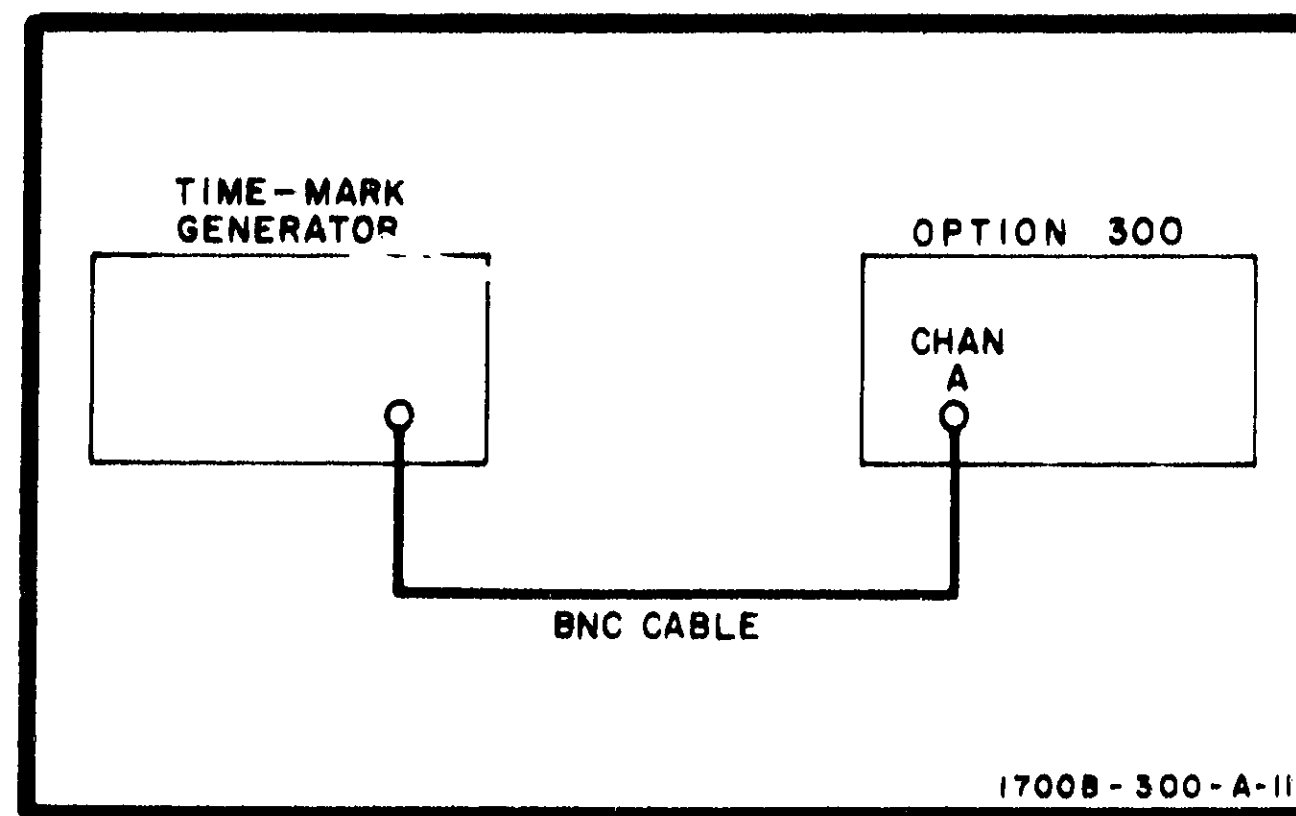

Figure 5-6. Sweep Time Test Setup
- a. Connect instruments as shown in figure 5-6.